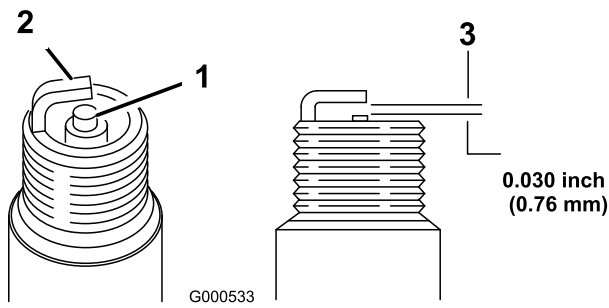

Figure 40
1. Look at the center of the spark plug(s) (Figure 40). If you see light brown or gray on the insulator, the engine is operating properly. A black coating on the insulator usually means the air cleaner is dirty.
2. Check the gap between the center and side electrodes (Figure 40). Bend the side electrode (Figure 40) if the gap is not correct.